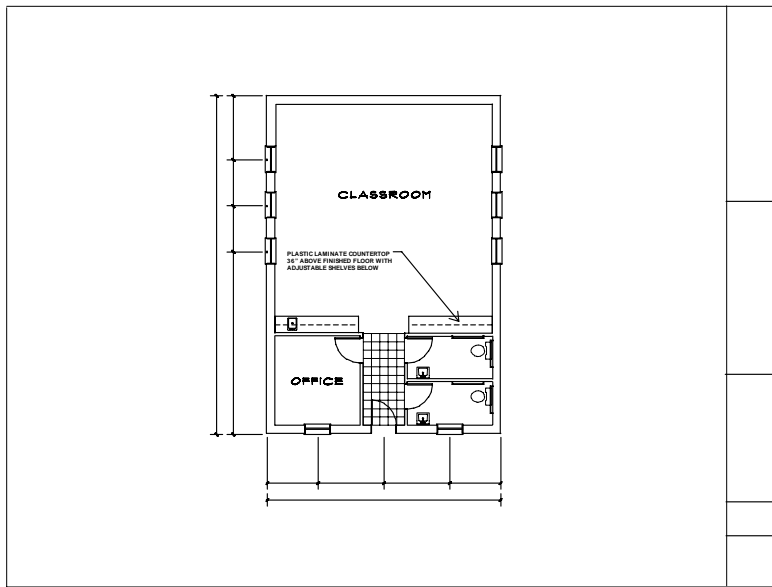

Figure 4.31: The drawing with title block
24. Move the cursor upwards and click to place the line in a few different locations to section off the title block, as in Figure 4.31.